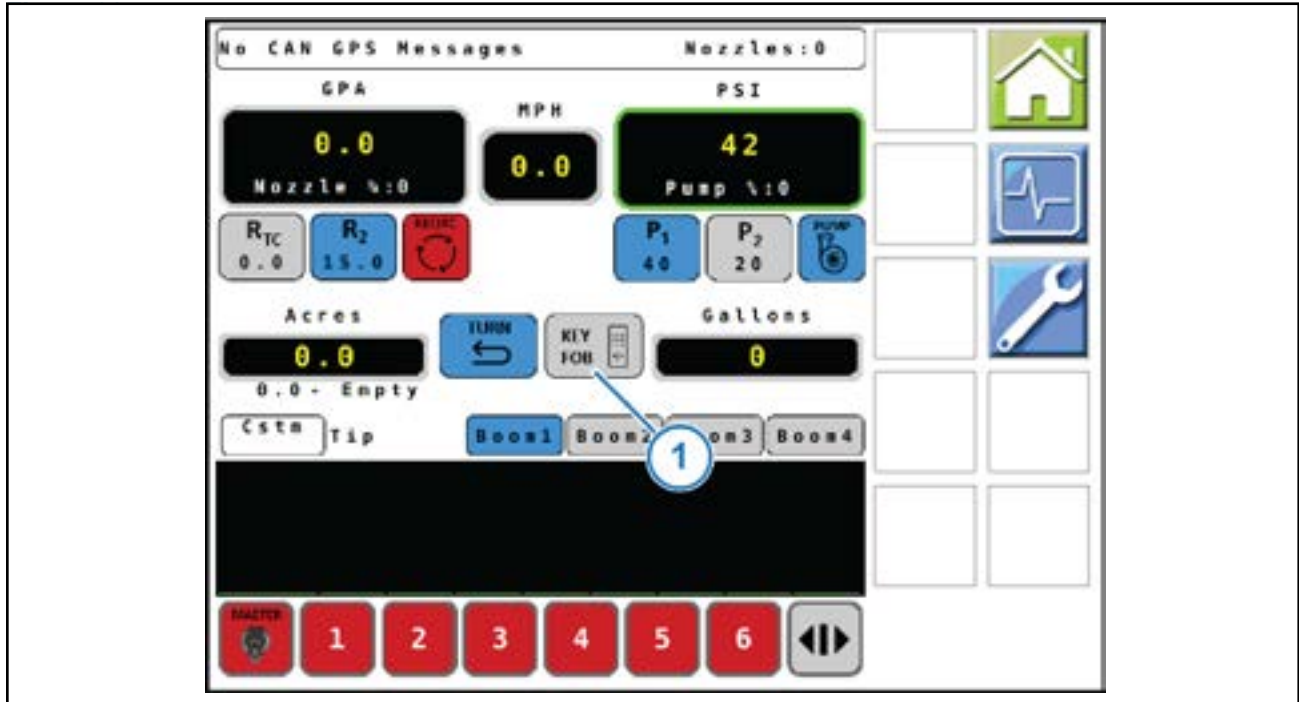

Figure 33: Key Fob Mode
1. After performing the boom shutoff wet test, initiate the key fob boom shutoff wet test, by selecting the **KEY FOB** icon (Figure 33, Item 1)
6. Deselect the **KEY FOB** icon (Figure 33, Item 1).